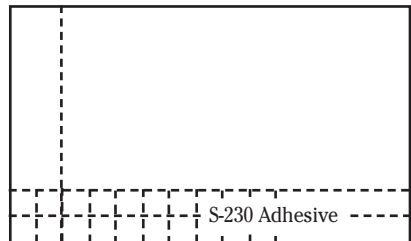

Fig. 3
5. Apply S-230 Adhesive for only two or three rows of tile (Fig. 3). Working time of S-230 is approximately one hour.